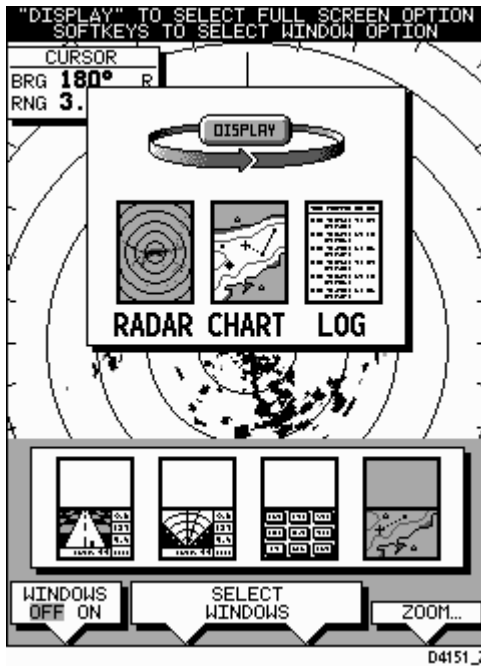

Figure 2-5: Using the **DISPLAY** Key
- To change the mode, press the **DISPLAY** key to show the **DISPLAY** pop-up, then press again to cycle through the modes available, shown in the *Figure 2-5*.